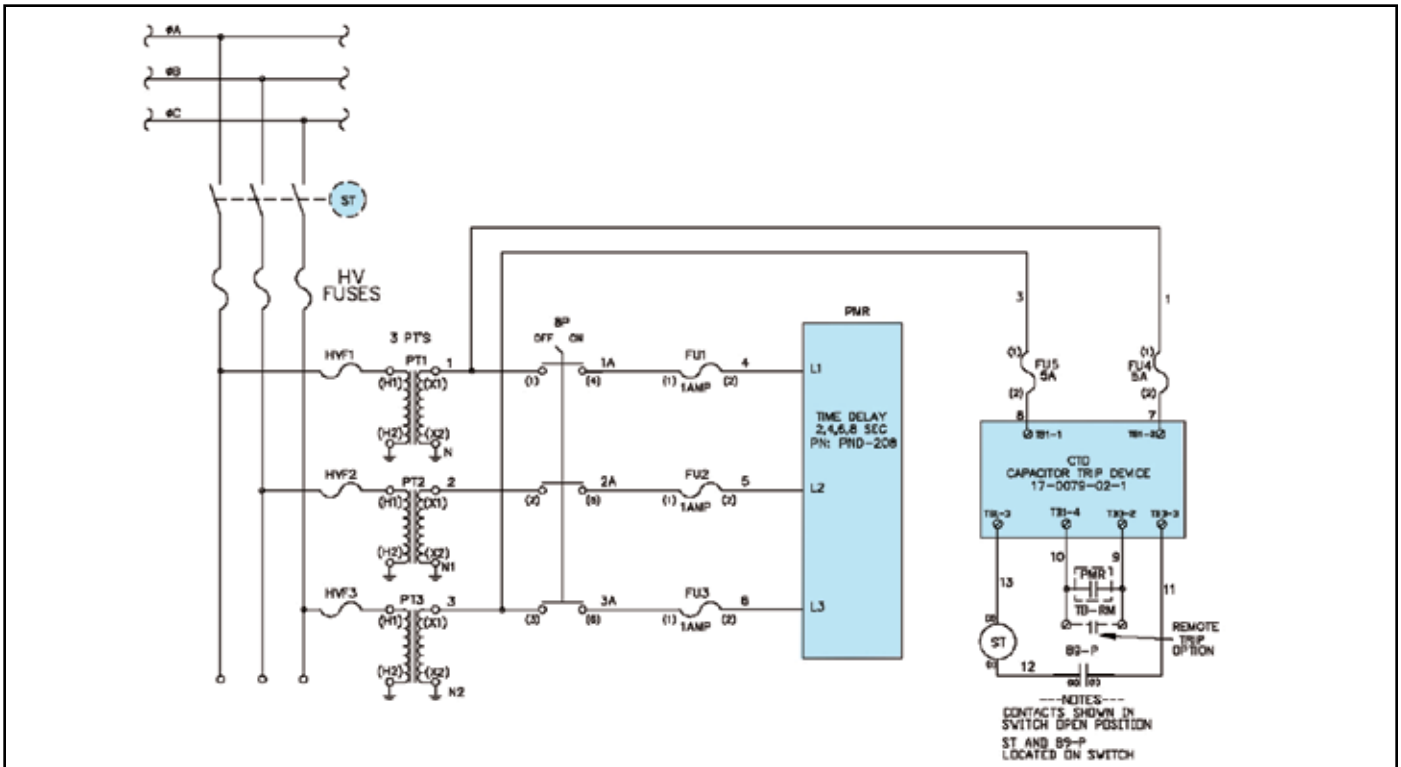
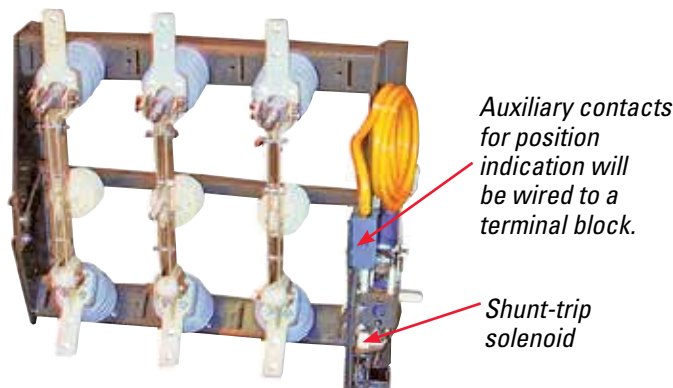

Figure 12. Electrical Schematic — Shunt-Trip.
Figure 13. Switch With Shunt-Trip.
Pictured in Figure 13 is the Auto-jet® switch with the trip release module. The electric schematic used to actuate the tripping module is in Figure 12.
1. The shunt trip switch operation/solenoid can be tested electrically by jumpering the Remote Trip terminal block points. This is a two pole terminal block which requires a set of dry contacts. Touching these two points together with a jumper will discharge the capacitor into the shunt trip coil, thereby, opening the switch. See Figure 12.
2. To test the relay itself, it is possible to remove any one of the low voltage control fuses (FU 1, FU 2, and FU 3) to simulate a loss of phase. The removal of a fuse should be performed with a pair of fuse pullers for safety. See Figure 12.